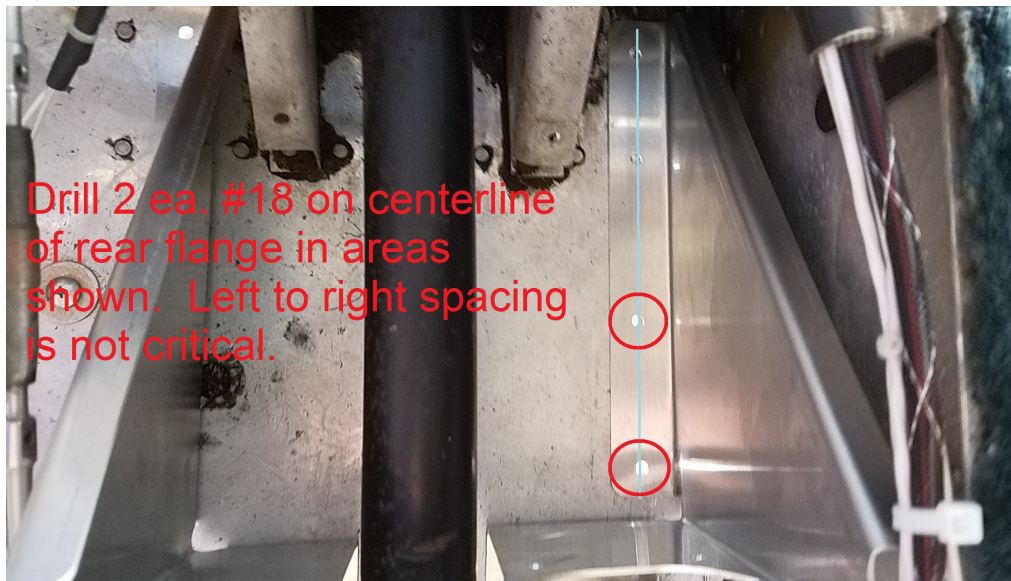

Figure 2-9
- 1.15. Drill 2 more #18 holes through the lower rear flange of the pitch bracket assembly (P/N 7200-103) and lower fuselage as shown in Figure 2-9.